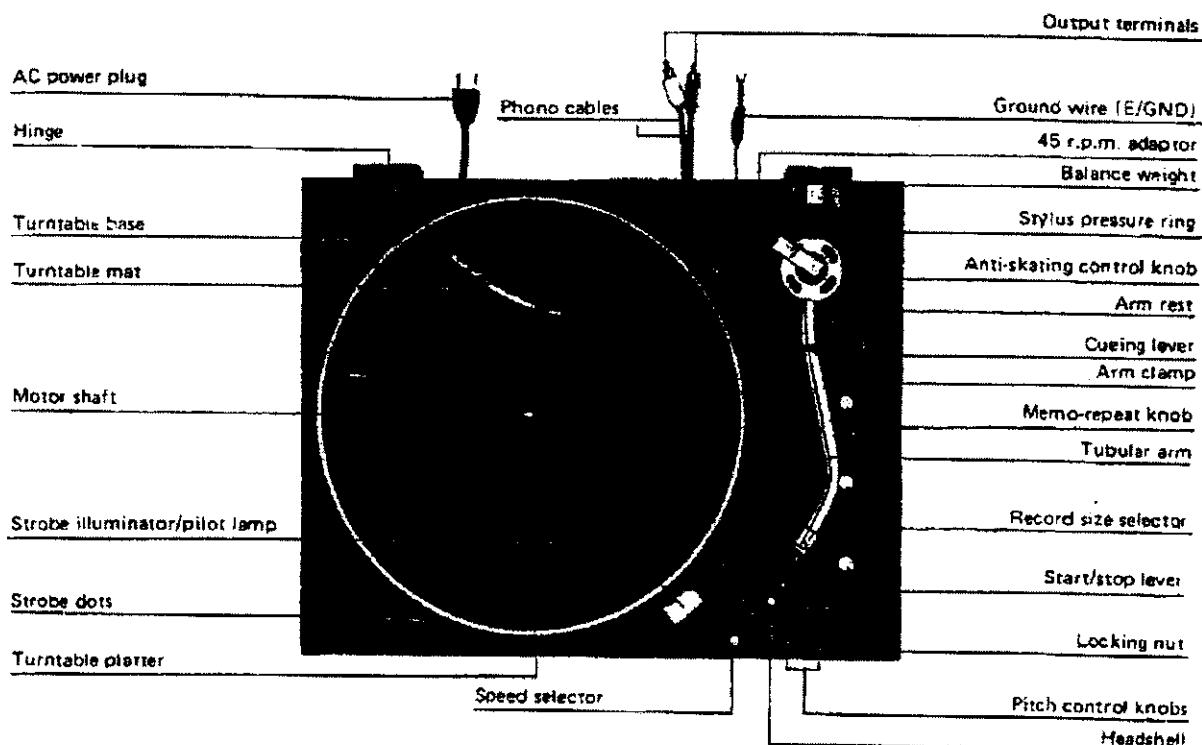

Fig. 1
- 2) Make sure that speed selector is in the "I" position, the balance adjustment is easily made as the turntable platter remains stationary. (See Fig. 1).
- 4) Make sure that the "memo-repeat" knob is located at the "0" position. (See Fig. 1).